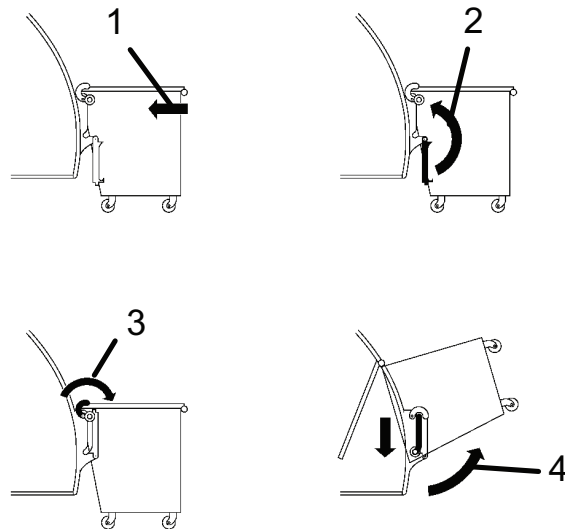

Figure 28
1. With the lock lugs open and the Container Latch guide bars lowered (Figure 28, Item 1), back up the truck or roll the container into position. Make certain the pins on the container sides are correctly positioned tightly against the guide bars on the vehicle.
2. Raise the container latch guide bars into position on each side of the container (Figure 28, Item 2).
3. Lower and lock the lugs onto the container latch guide bars on each side of the container (Figure 28, Item 3). Make certain that both of the container latch guide bars are securely latched.
4. Use the container tipper, winch, or reeving cylinder to empty the container into the hopper (Figure 28, Item 4).